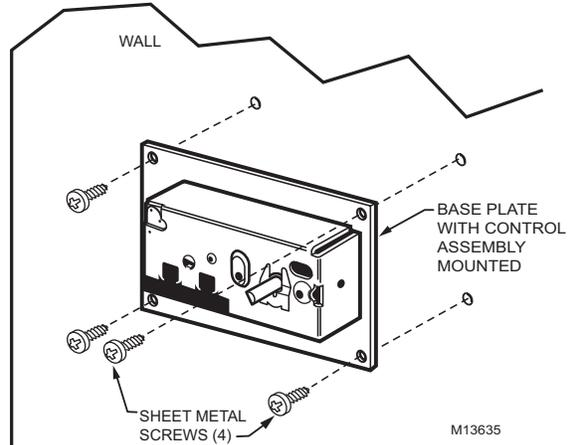

Fig. 46. Mounting Humidistat.
11. Secure Base Plate to the wall using four #6 x 1 in. Sheet Metal Screws. See Fig. 46.